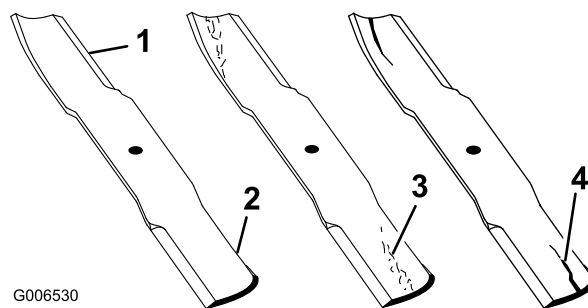

Figure 45
1. Inspect the cutting edges (Figure 45).
2. Inspect the blades, especially the curved area (Figure 45).
Note: If you notice any damage, wear, or a slot forming in this area (item 3 in Figure 45), immediately install a new blade.